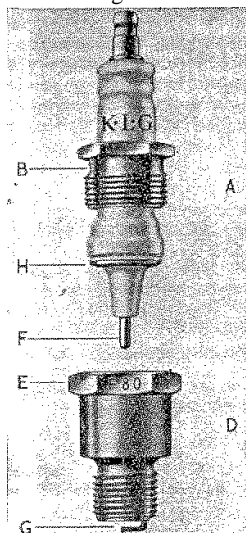

FIG. 44. DETACHABLE TYPE SPARKING PLUG (K.L.G.)
To Clean K.L.G. and Lodge Plugs. Fig. 44 shows a typical detachable type (K.L.G.) sparking plug dismantled for thorough cleaning. To dismantle a detachable-type plug, grip the smaller hexagon on the gland
To clean the metal parts (plug body and gland nut), wipe them clean with petrol, or, if necessary, scrape off the deposits with a small knife, or use a wire brush. Afterwards rinse the parts in petrol. The gland nut seldom gets very fouled, but the inside of the plug body may be very dirty, and the same may apply to the external threads of the plug. Clean and polish the points (see Fig. 44) of the centre and outside (earth) electrodes (F) and (G) with some fine emery-cloth.